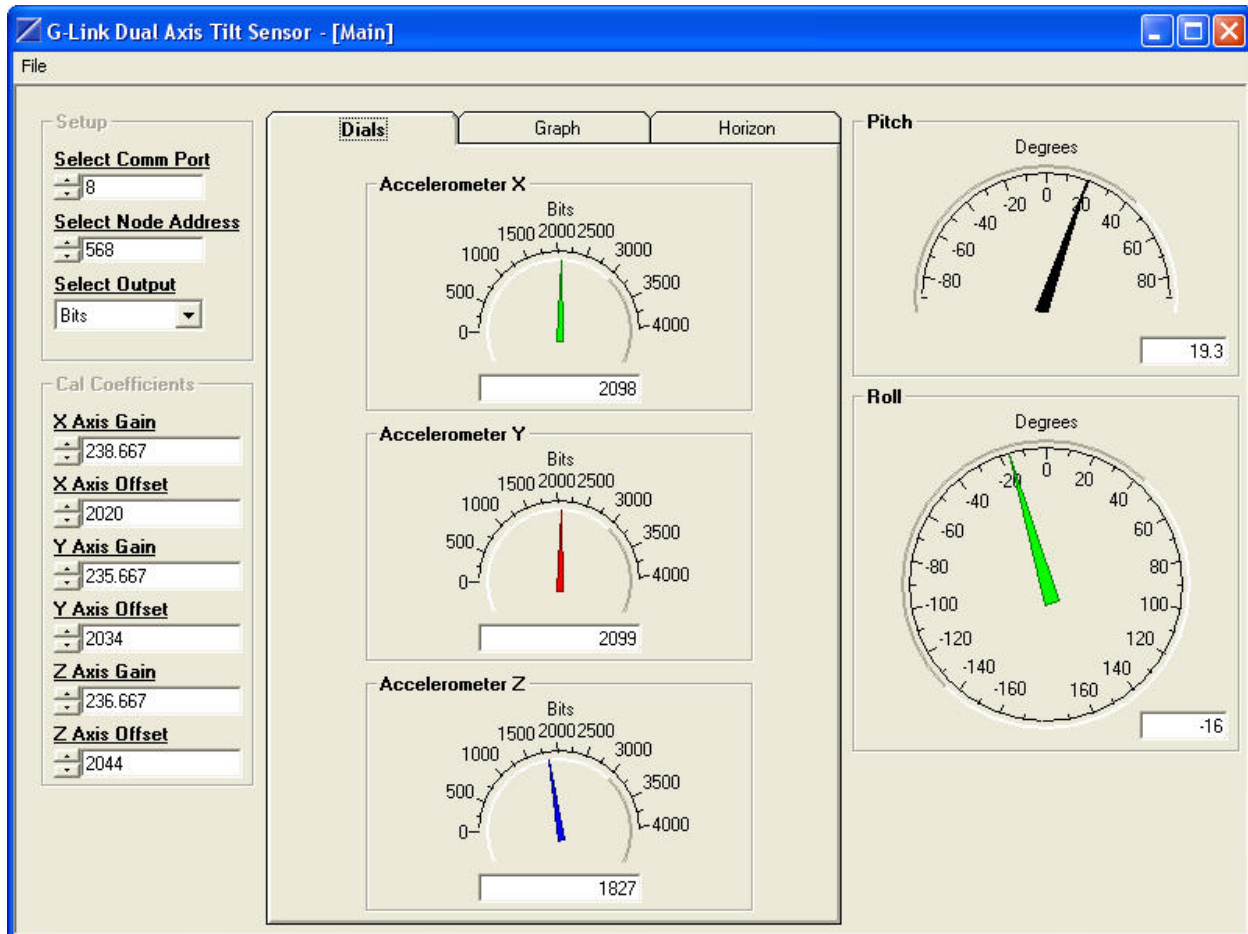

Figure 2
- The Main screen appears as shown in **Figure 2**.